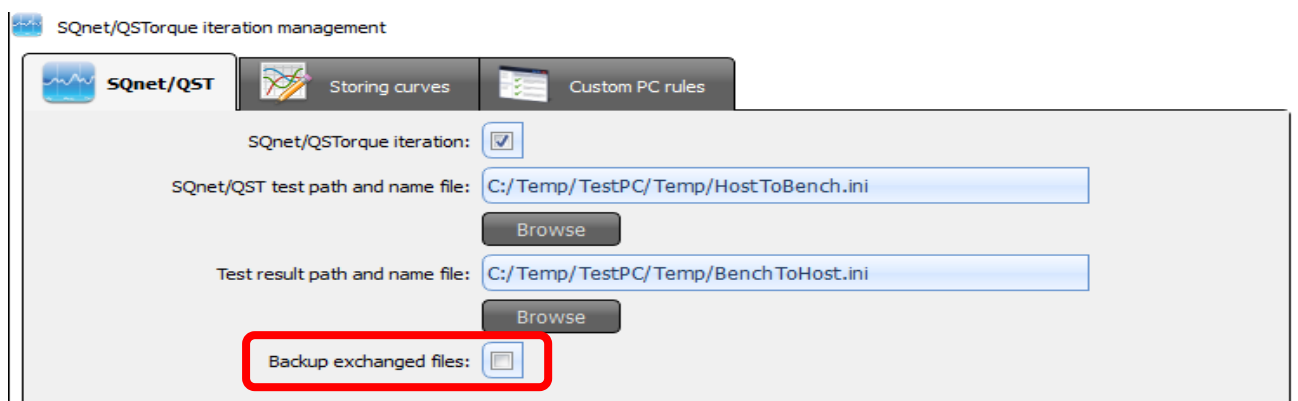

Figure 8
- in the **Configuration** on the **SQnet/QST** section has been added an option that specifies if is necessary to do a **backup** of the files received from the external software (*HostToBench.ini*) and sent to the external software (*BenchToHost.ini*). The files are stored in the subdirectory **\Backup** created in the same path specified to write the output files *BenchToHost.ini* (See **Figure 8**).